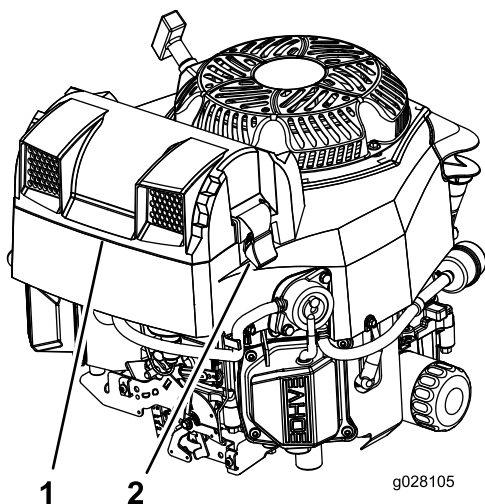

Figure 58
2. Remove the cover to access the air-cleaner elements (Figure 58).
3. Install the cover, and secure it with the latches (Figure 58).